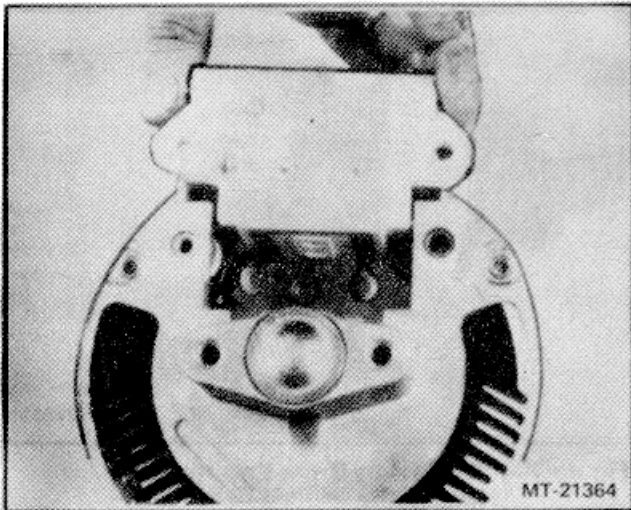

Figure 9 - Removing Regulator Housing.
10. Remove regulator housing. Note location of gasket which seals brush compartment (See Figure 9).
11. Remove terminal stud insulating bushings from housing. There are two bushings in each terminal hole (See Figure 9).